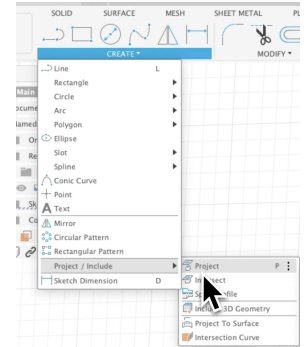

Figure 1.3
- To ensure your new sketch aligns with the existing model, use the **'Project'** tool found under **'Create' > 'Project'** (see Figure 1.3). This tool allows you to project edges, holes, or profiles from one part onto another surface.